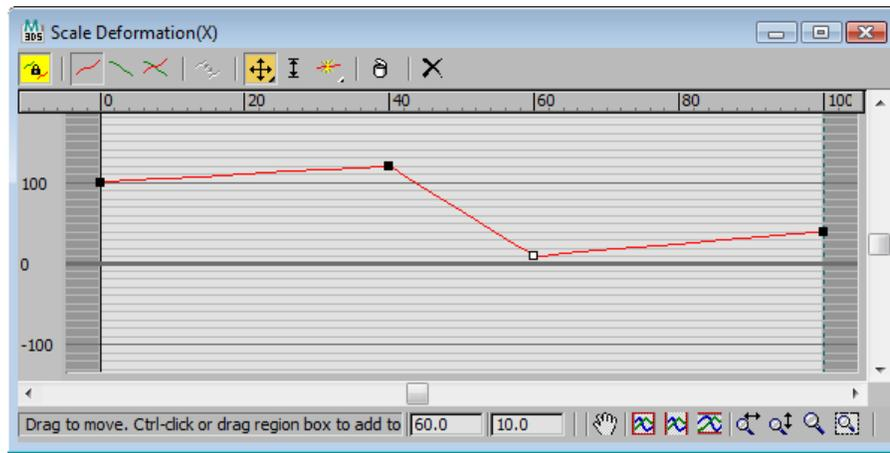

Figure 9-5A Two vertices are added and moved in the *Scale Deformation* dialog box.
10. Pick the **Move Control Point** button and move this new vertex below the top (100%) line by nine lines until 10 is displayed in the right-hand text box at the bottom of the dialog box, **Figure 9-5A**.